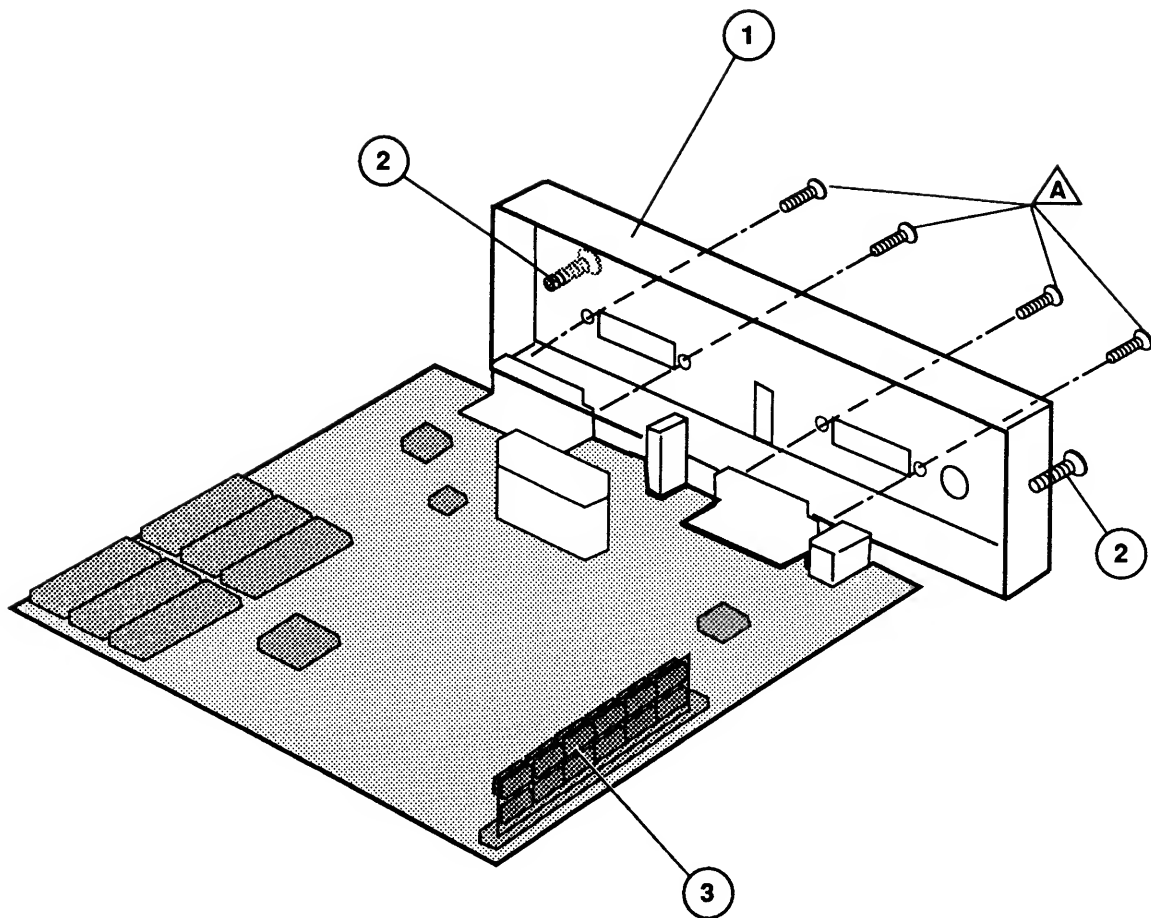

Figure 27
□ I/O BOARD – LW NTR (Figure 27)